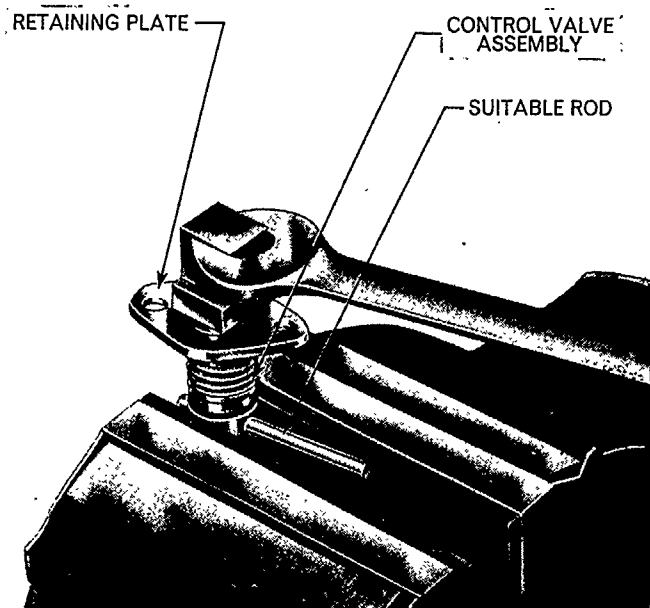

Figure 61
2. Examine the control valve spool assembly for burrs and scoring and inspect the centering spring for weakness. If it is necessary to dismantle the control valve spool assembly hold in a vice with soft jaws with a suitable rod through one of the oil holes in the spool and unscrew the linkage block from the spool, Figure 61. The retaining plate, centering spring and washers can then be removed.